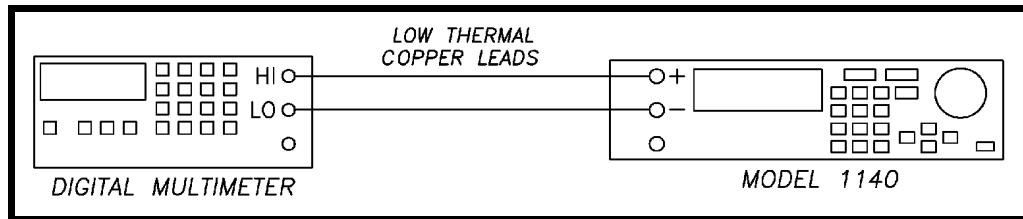

Figure 9-2: Setup for Source Tests
1. Connection the Model 1140A to the DMM using the low-thermal cable as is shown in Figure 9-2.
1. Connect the equipment as is shown in Figure 9-2.